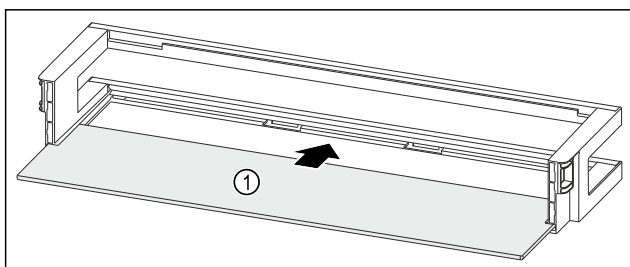

Fig. 143 Door rack with shelf
- ▶ Push the shelf Fig. 143 (1) into the side recesses.